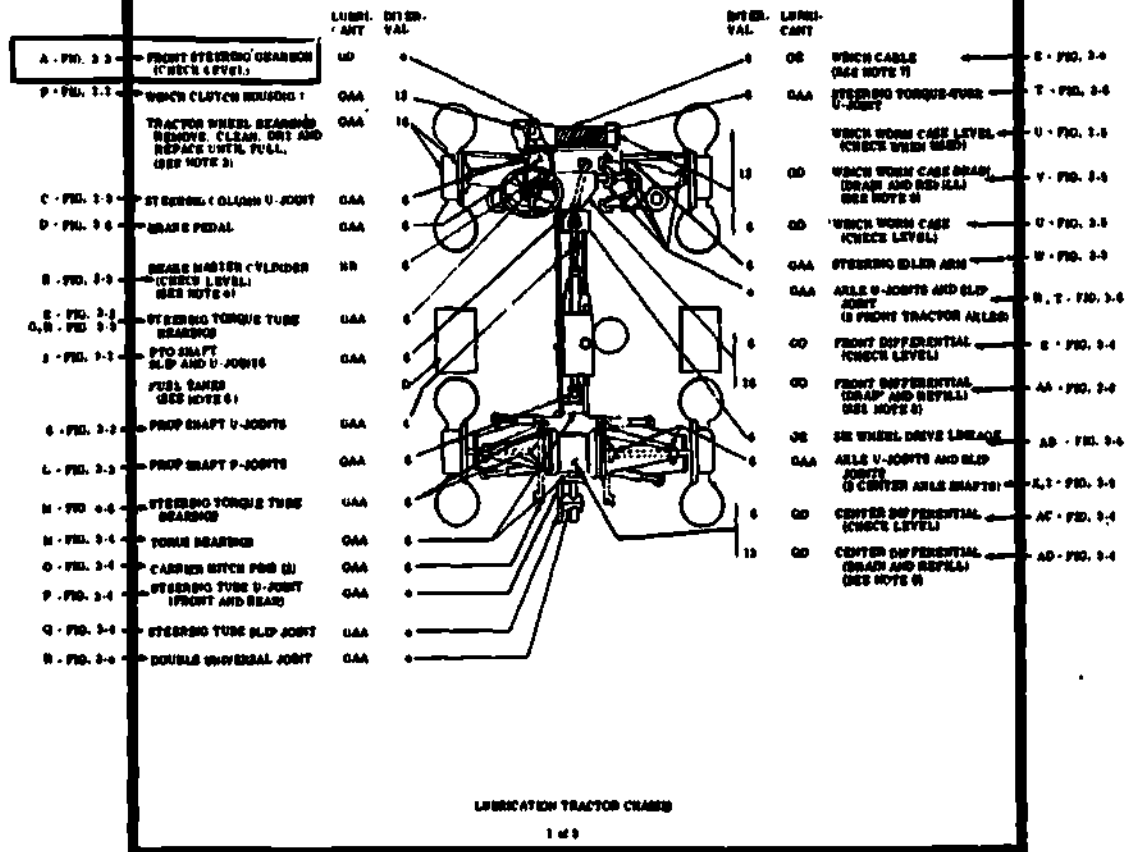

Fig 1-108. Location of plugs and fittings.
- Step 1. Refer to figure 1-108 and the first lube point. It is the front steering gearbox.
- Step 2. The sketch diagram shows the location. At the end of the line it shows the numeral six for interval. Now refer to the key for interpretation of that interval (fig 1-108). It says 6 months or 6000 miles whichever occurs first.
- Step 3. Figure 1-108 states that GO lube is the correct lube to use. Refer to the key (fig 1-109) and looking down the left hand column you will see Front Steering Gear Box. Reading from right to left you can determine the capacity (1 pint) and, depending on what temperatures you will be operating in, a recommended lubricant is given.
- Step 4. The first item at the upper left hand corner of figure 1-108 reads as follows: A-Fig 3-2. Front steering gearbox. This means that a picture of the front steering gearbox fill and level plug can be found as photo A in figure 3-2. We have taken the figures from the lube order and included them in the course. In the process we had to renumber them so that figure 3-2 from the lube order is figure 1-111 in this course. If you will now refer to figure 1-111, you will see a clear picture of exactly which item they are referring to.